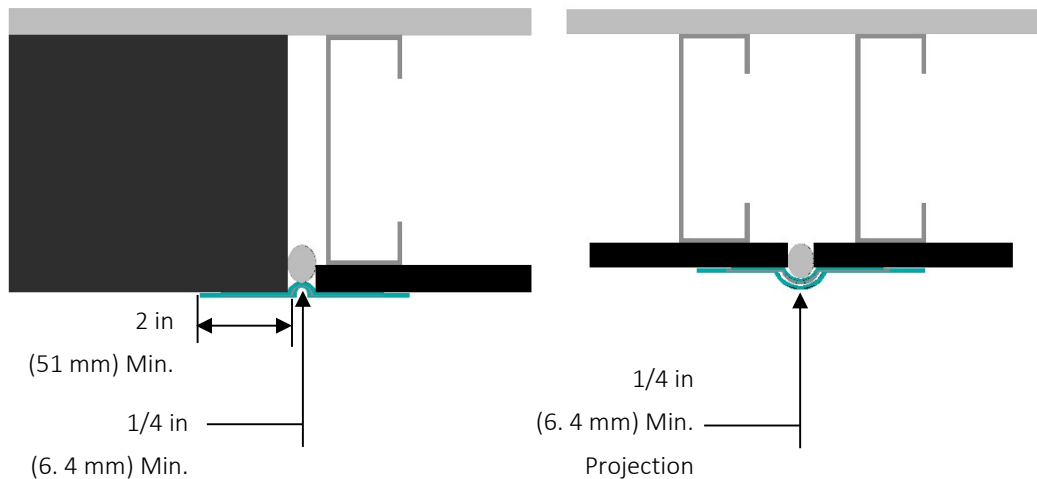

Fig. 18
- The width of the AquaFlash Mesh must overlap each side of the joint a minimum of 2 in (51 mm) - **Figure 18**.